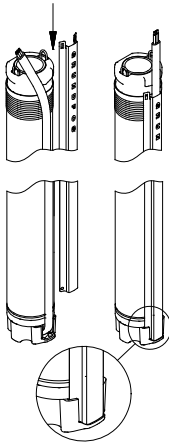

Fig. 8
- Place the cable guard in the groove in the cable plug. The two flaps of the cable guard must engage with the upper edge of the pump sleeve, see fig. 8.